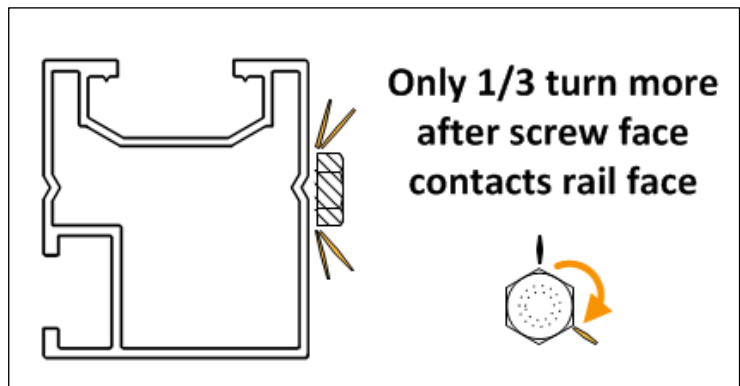

Fig. 2
1. Fit a splice halfway into a rail end, align the splice hole with the rail hole, secure the components so that they will not move, and then drive a splice screw through the aligned hole *stopping 1/3 turn after the screw face has contacted the rail face* (Fig. 2). This method provides 40 +5/-0 in-lb (4.5 N-m) of torque. Use a torque wrench to verify and (if necessary) apply final torque to each screw.